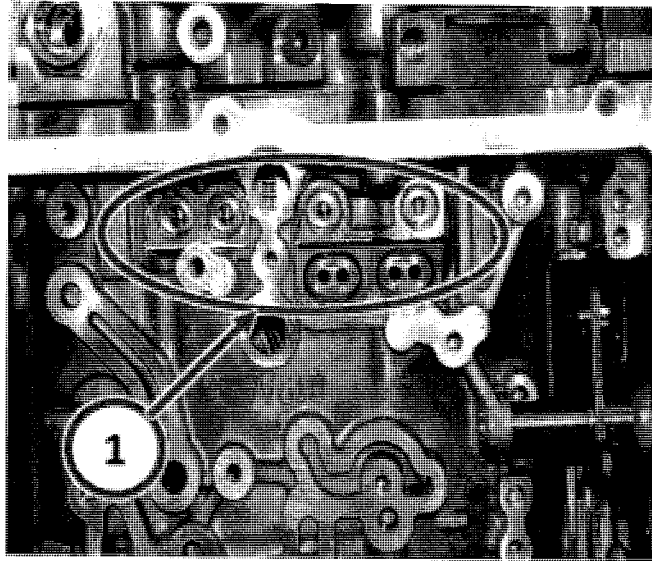

Fig. 22 OPSA To Bellhousing Properly Aligned
55. Carefully lower the bellhousing onto the transmission case. It may be necessary to rotate the OPSA/E-Clutch assembly slightly to assure proper guide pin alignment into the bellhousing during installation. See (Fig. 22) for proper final alignment.